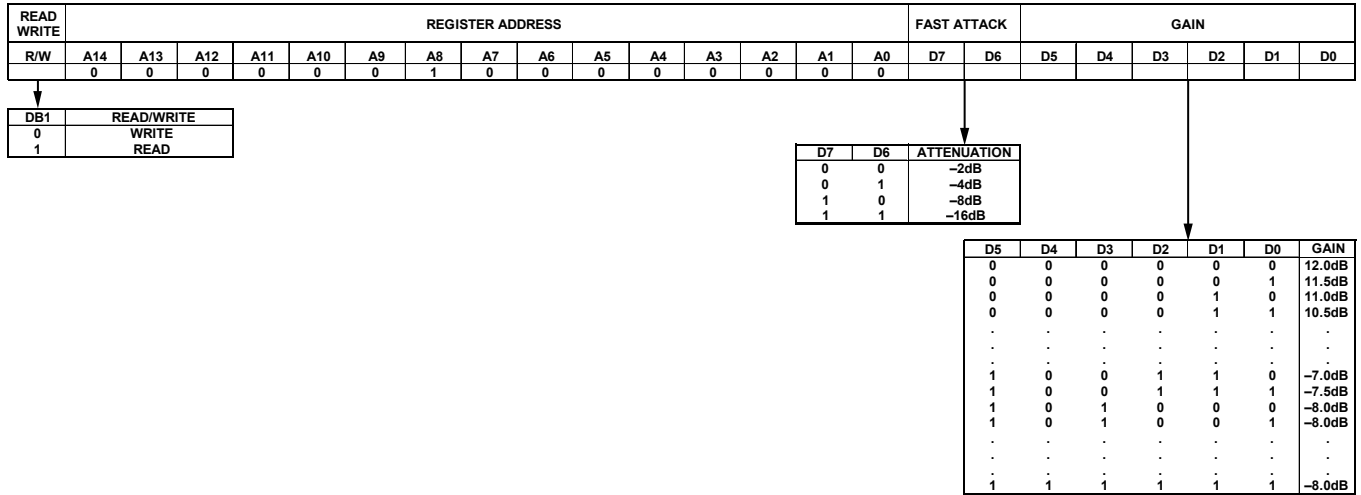

Figure 24. Gain and Fast Attack Programming via Register Address 0x100
The SPI data register consists of three bytes: one read/write bit (R/W), 15 address bits (A14 to A0), two fast attack (FA) attenuation step size bits (D7 and D6), and six gain control bits (D5 to D0), as shown in Figure 24.